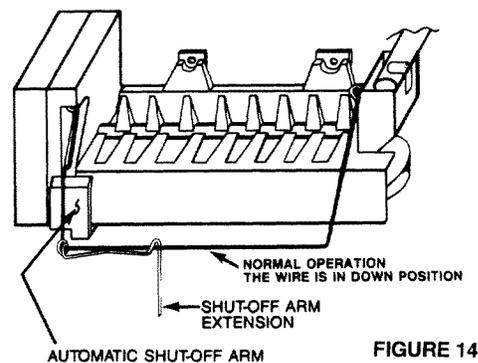

FIGURE 14
1. **Normal Operation:** the wire arm is in the down position; ice will be made. (See Fig. 14).